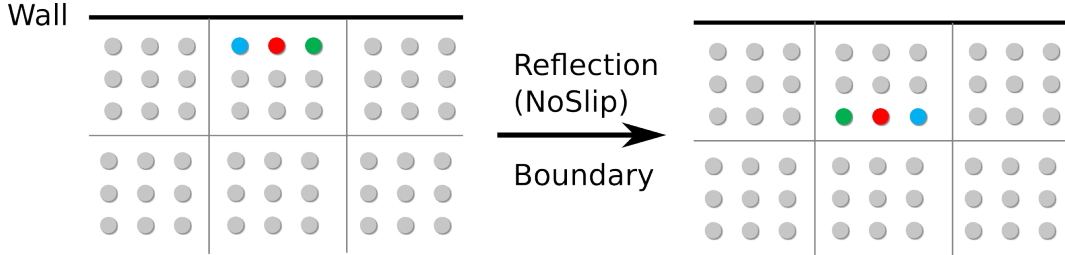

Figure 4: Streaming for reflection (no-slip) boundaries
- At the north and south boundaries, we apply reflection (no-slip) boundary conditions which enforce zero velocity at the wall. The update rule for these boundary cells is shown in Fig. 4 and is formally given as:
where $\bar{q}$ is the opposite lattice direction of q , such that $\vec{c}_{\bar{q}} = -\vec{c}_q$. In this formula, the cell $\vec{x}$ is located next to a boundary, and q is a direction from the fluid cell to the boundary, see Fig. 4.